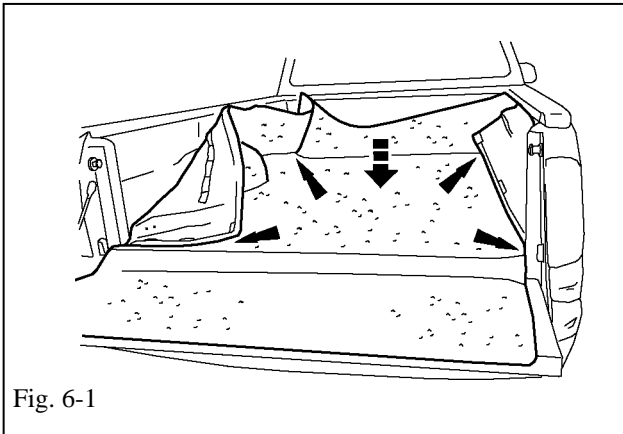

Fig. 6-1
- (b) Position the bed liner - front to rear and left to right by aligning all edges and tucking corners into place. (Fig 6-1)